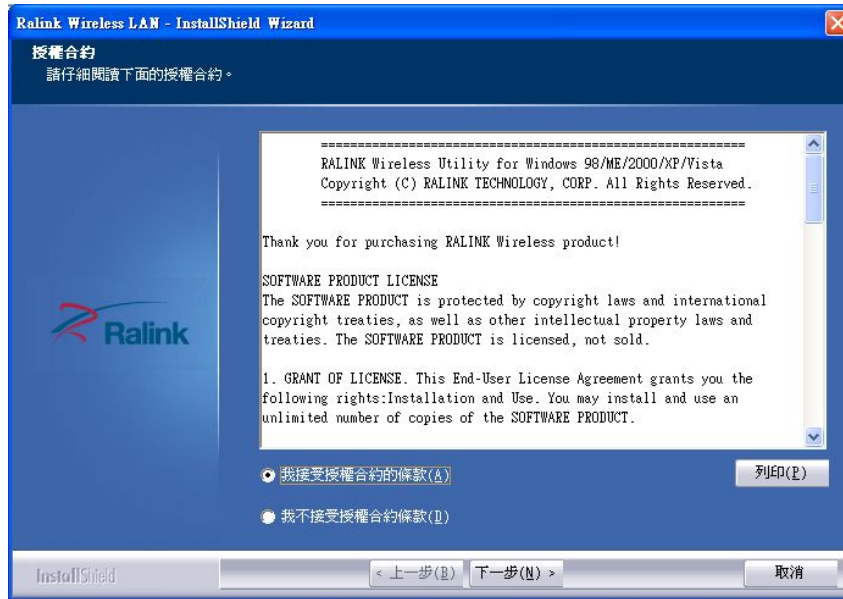

Figure 7-40: Wireless Driver License Agreement
Step 1: The license agreement in **Figure 7-40** appears.